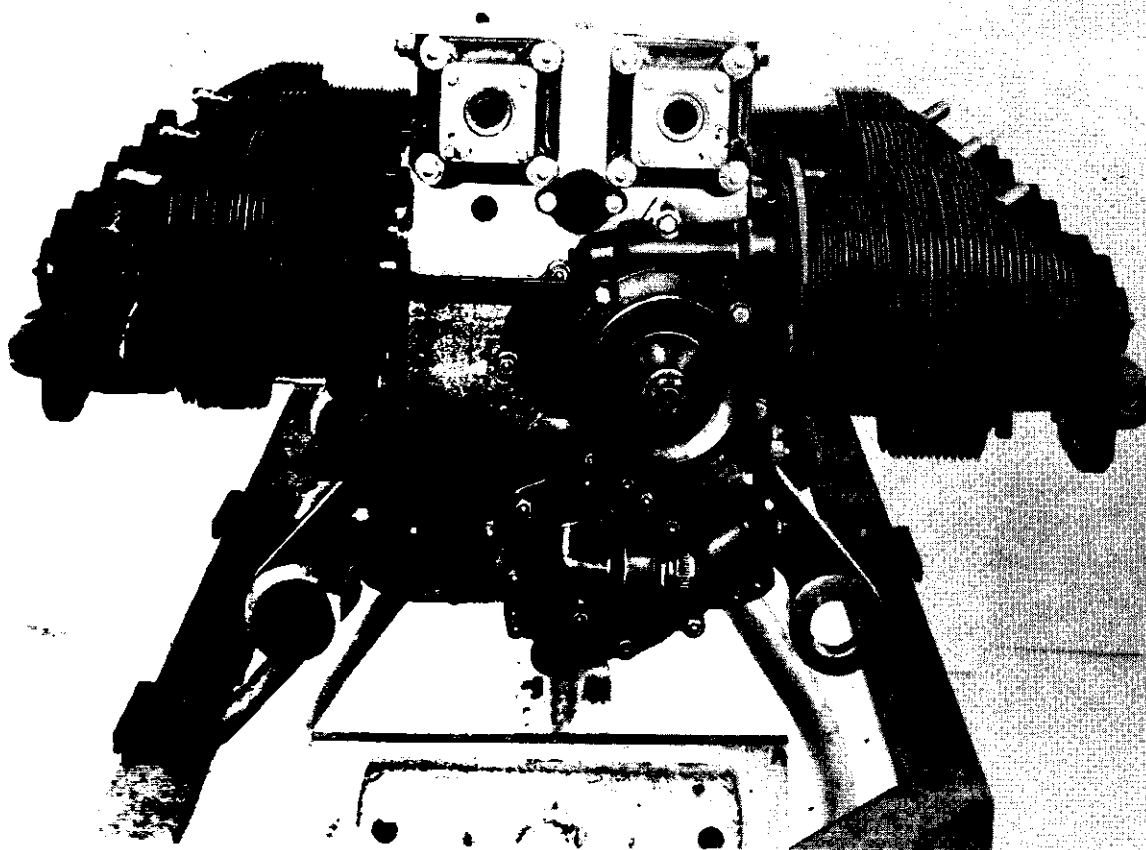

Figure 63. Crankcase with Cylinders, Oil Pump, Starter Adapter and Accessory Adapters Installed on O-470-A
e. Without delay, lubricate the pump shaft splines with Lubriplate grease, and install the pump assembly on the crankcase studs. For O-470-E engines, install the lower generator bracket arm on the two crankcase-to-oil-pump studs nearest the fuel pump. Install plain washers, internal tooth shakeproof washers and plain hex nuts on the ten studs; then tighten those and the cover attaching nuts consecutively around the housing, making two or three circuits to reach specified torque on all nuts. (See figure 63.)
12-12. STARTER DRIVE ADAPTER. In figure 63 the adapter assembly is illustrated as installed without the starter. If the starter was installed on the adapter, as described in paragraph 11-9 and figure 35, the installation procedure will be the same as the following: if not installed previously, install them
- a. Push the generator mounting lugs over the ends of its mounting bracket (1) already attached to the crankcase. The rear lug will lie between the mount bracket and support bracket (2) previously attached to the starter drive adapter. (See figure 63.)
- c. Attach the top support bracket (10) to the top generator lug with a bolt and a washer (11, 12) loosely.
- d. If the generator sheave (13) has not been installed, remove the shaft nut and install a Woodruff key in the shaft key slot; then install the sheave and nut.
- e. Install the drive belt (14) on the starter adapter and generator sheaves, and hold the generator outward while tightening its clamp bolt (12) so that the belt can be moved up or down from its natural position about 1/2 inch. Tighten and check for security all starter-adapter, carburetor-support and generator bolts.
their oil holes aligned with crankcase oil outlet holes. Install the two adaptor assemblies with oil holes aligned with the crankcase oil outlet holes. Attach both with plain and shakeproof washers and plain hex nuts. (See figure 63.)